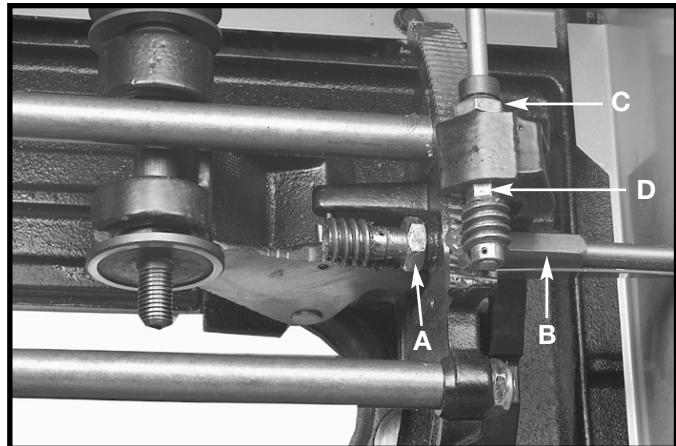

Fig. 38
**ADJUSTING BLADE RAISING MECHANISM** - Loosen locknut (A) Fig. 38, and turn eccentric sleeve (B) until all play is removed. **Tighten locknut (A) while holding sleeve in place.**
**ADJUSTING BLADE TILTING MECHANISM** - Loosen locknut (C) Fig. 38, and turn eccentric sleeve (D) until all play is removed. **Tighten locknut (C) while holding sleeve in place.**